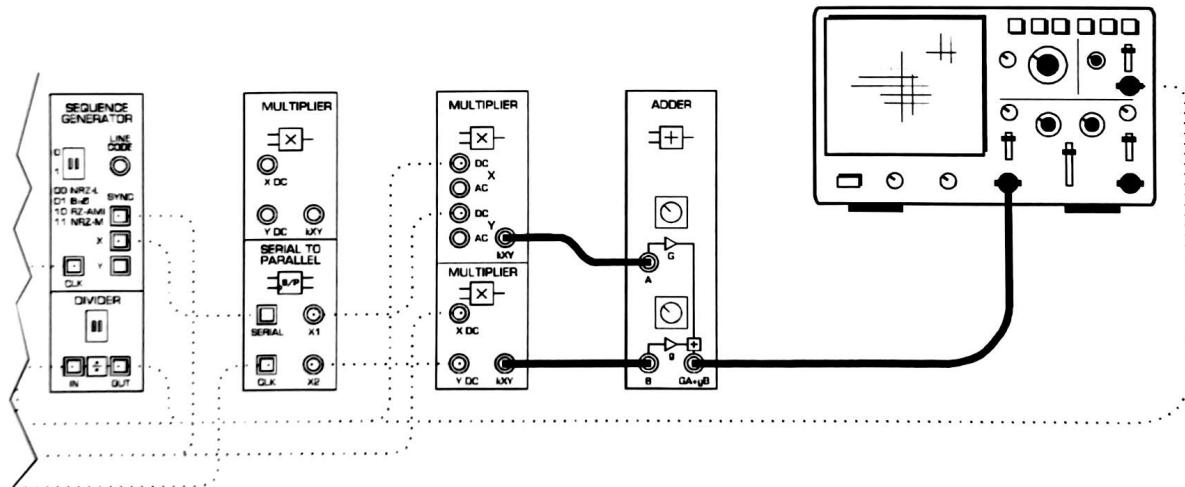
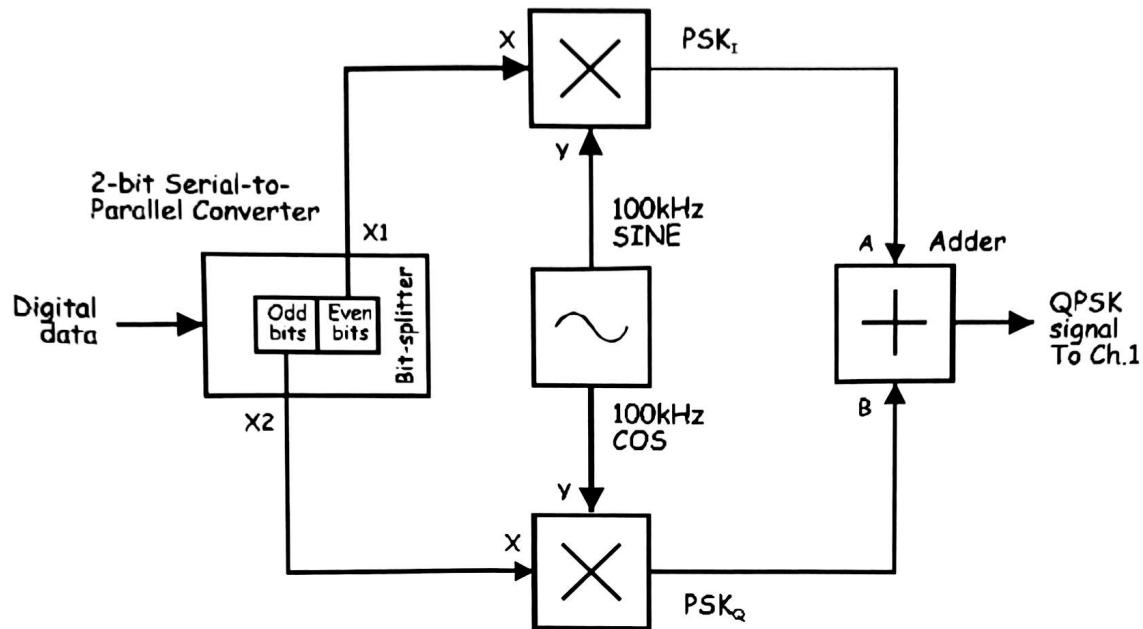

Figure 9
Figure 10
23. Modify the set-up as shown in Figure 9 below.
The set-up in Figure 9 can be represented by the block diagram in Figure 10 below. The Adder module is used to add the PSKI and PSKQ signals. This turns the set-up into a complete QPSK modulator.